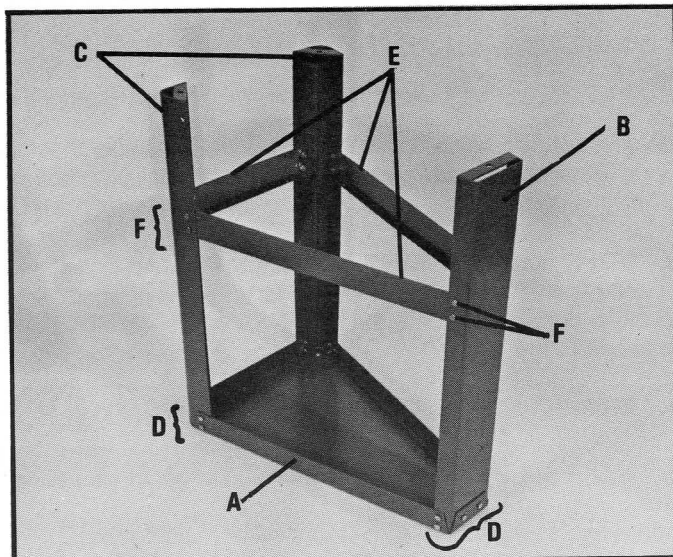

Fig. 4
1. Lay top shelf (A) upside down on floor, as shown in Fig. 4, and assemble one rear leg (B) and two front legs (C) to top shelf using the fourteen 5/16-18 x 3/4" Hex Head screws, 5/16" lockwashers, and 5/16"-18 Hex nuts (D). NOTE: All three legs are to be positioned inside the top shelf, as shown.
2. Assemble the three tie bars (E) to the legs, as shown in Fig. 4, using the twelve 5/16-18 x 3/4" Hex Head screws and 5/16"-18 Hex nuts (F).